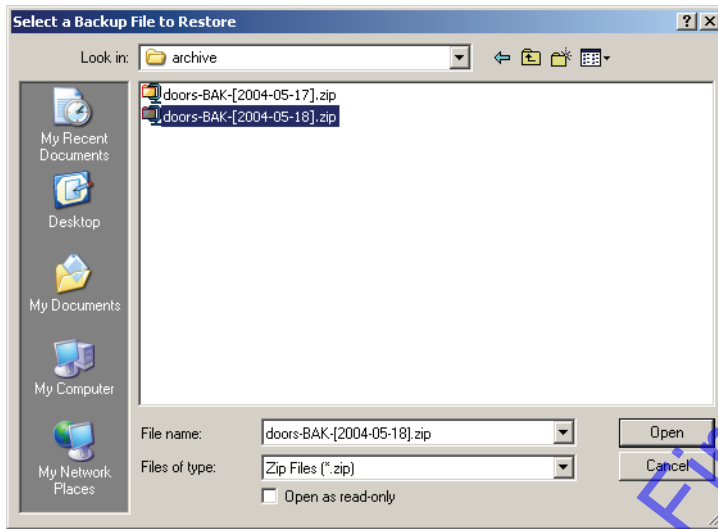

Figure 5-62: Select Backup File to Restore
- Click on the **Backup File** button. The Select a Backup File to Restore window appears. Select the “archive” folder then the ZIP file to be restored (see Figure 5-62).